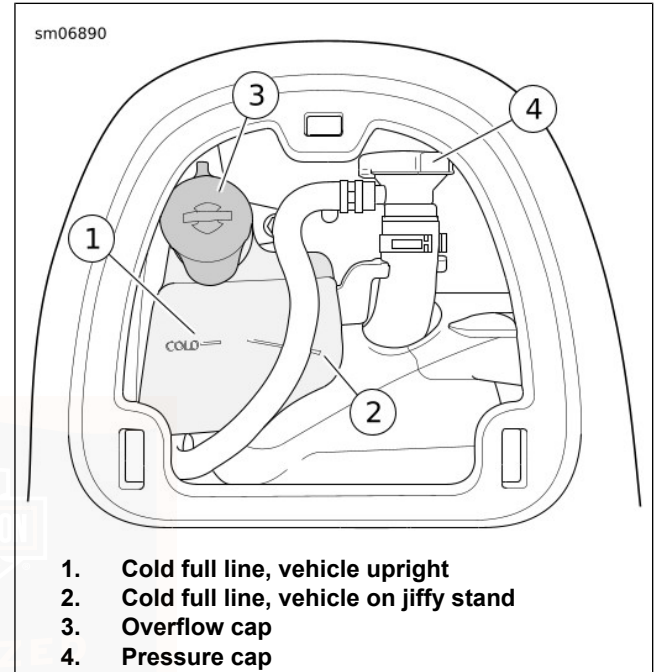

Figure 71. Coolant Level
See Figure 71. The coolant bottle has two lines. Use the angled line (2) when the motorcycle is leaning on the jiffy stand.
- See Figure 71. Check that coolant level in coolant bottle is at or slightly above the "COLD" line (1).